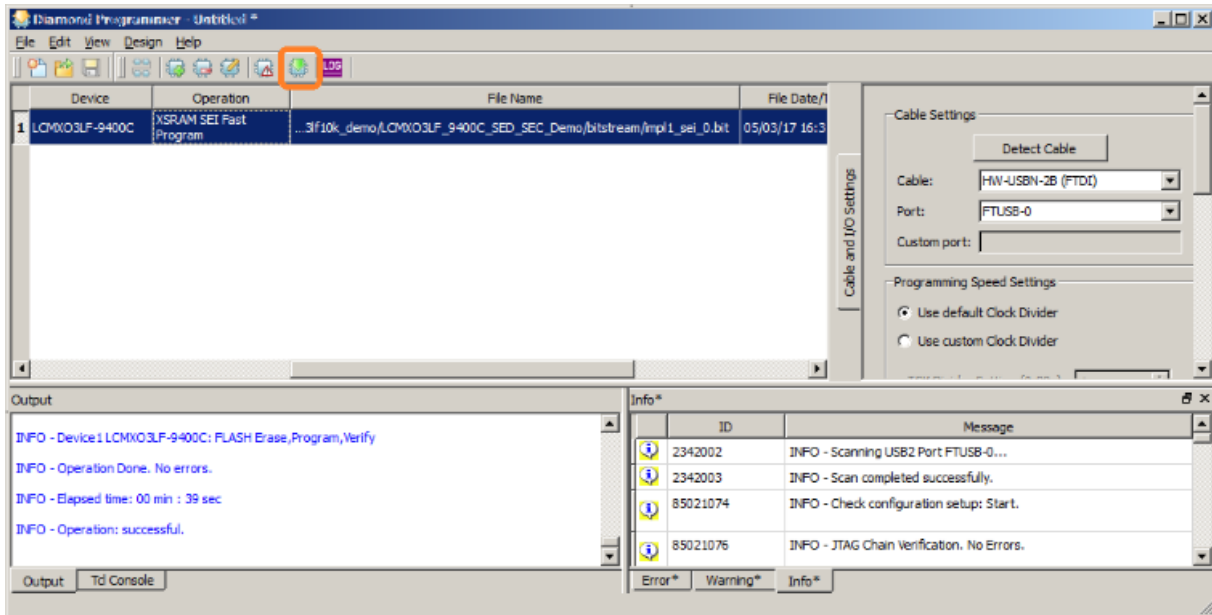

Figure 6.9. Starting XSRAM SEI Fast Program Operation
- Click the **Program** button as shown in Figure 6.9 to initiate background programming.